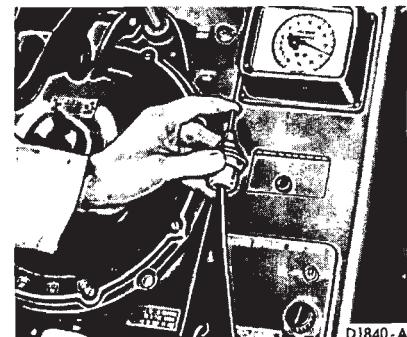

FIG. 8—Testing Transmission Vacuum Unit for Leakage
4. Adjust the engine idle speed to the specified rpm. If the engine idle speed cannot be brought within limits by adjustment at the carburetor idle adjustment screw, check the throttle and downshift linkage for a binding condition. If the linkage is satisfactory, check for vacuum leaks in the transmission diaphragm unit (Fig. 8 or 9) and its connecting tubes and hoses. Check all other vacuum operated units (such as the power brake) for vacuum leaks.
tor tester equipped with a vacuum pump (Fig. 8). Set the regulator knob so that the vacuum gauge reads 18 inches with the end of the vacuum hose blocked off.